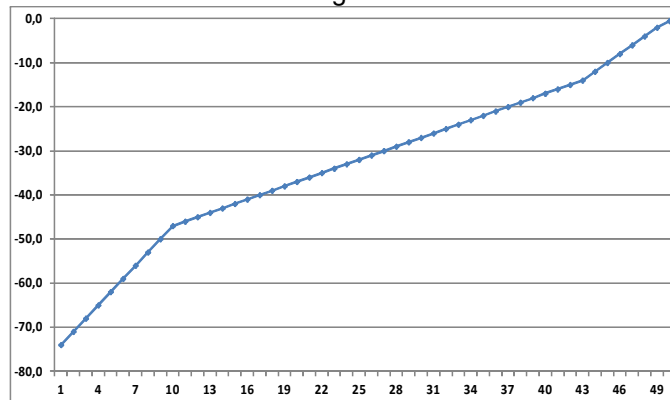

fig. 3
3. Volume Scale #3 – This setting is thought to optimize loudspeakers at mid volume (fig. 3)